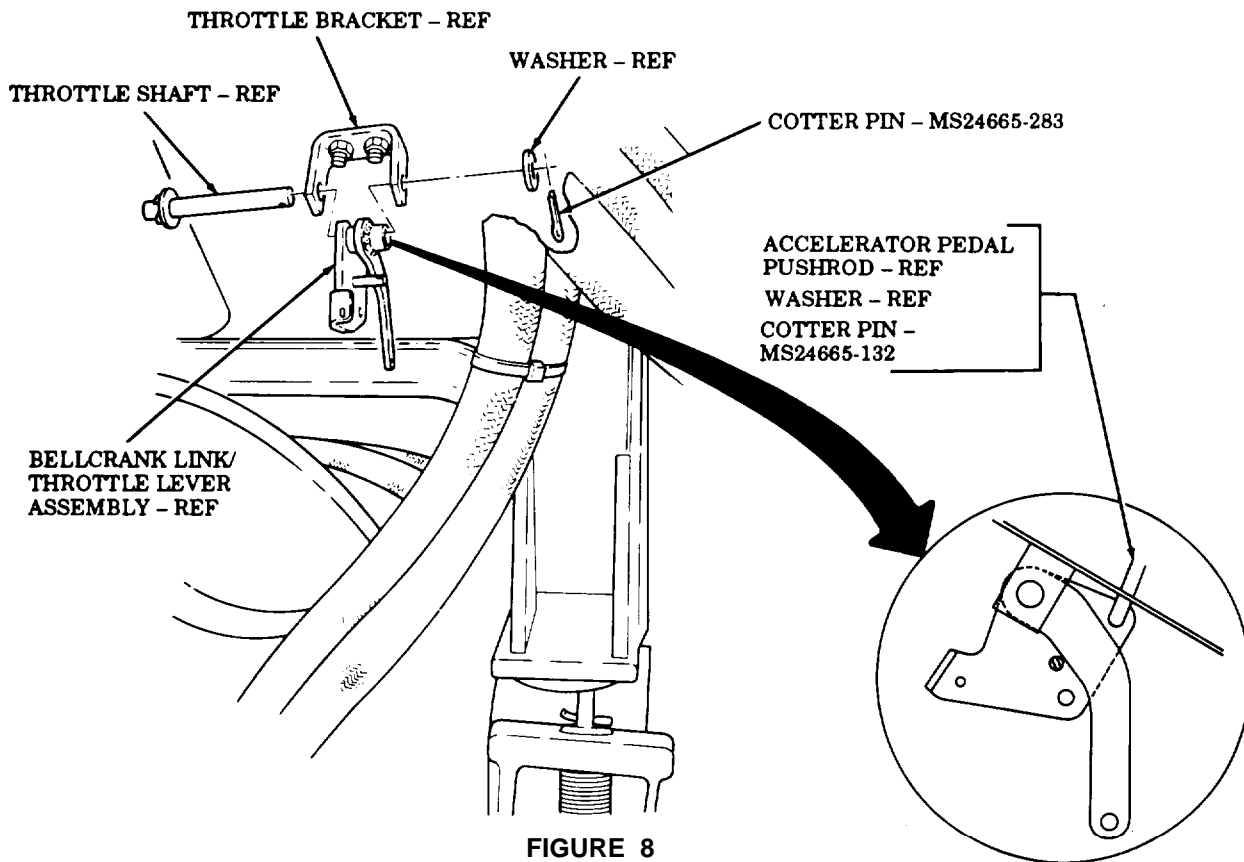
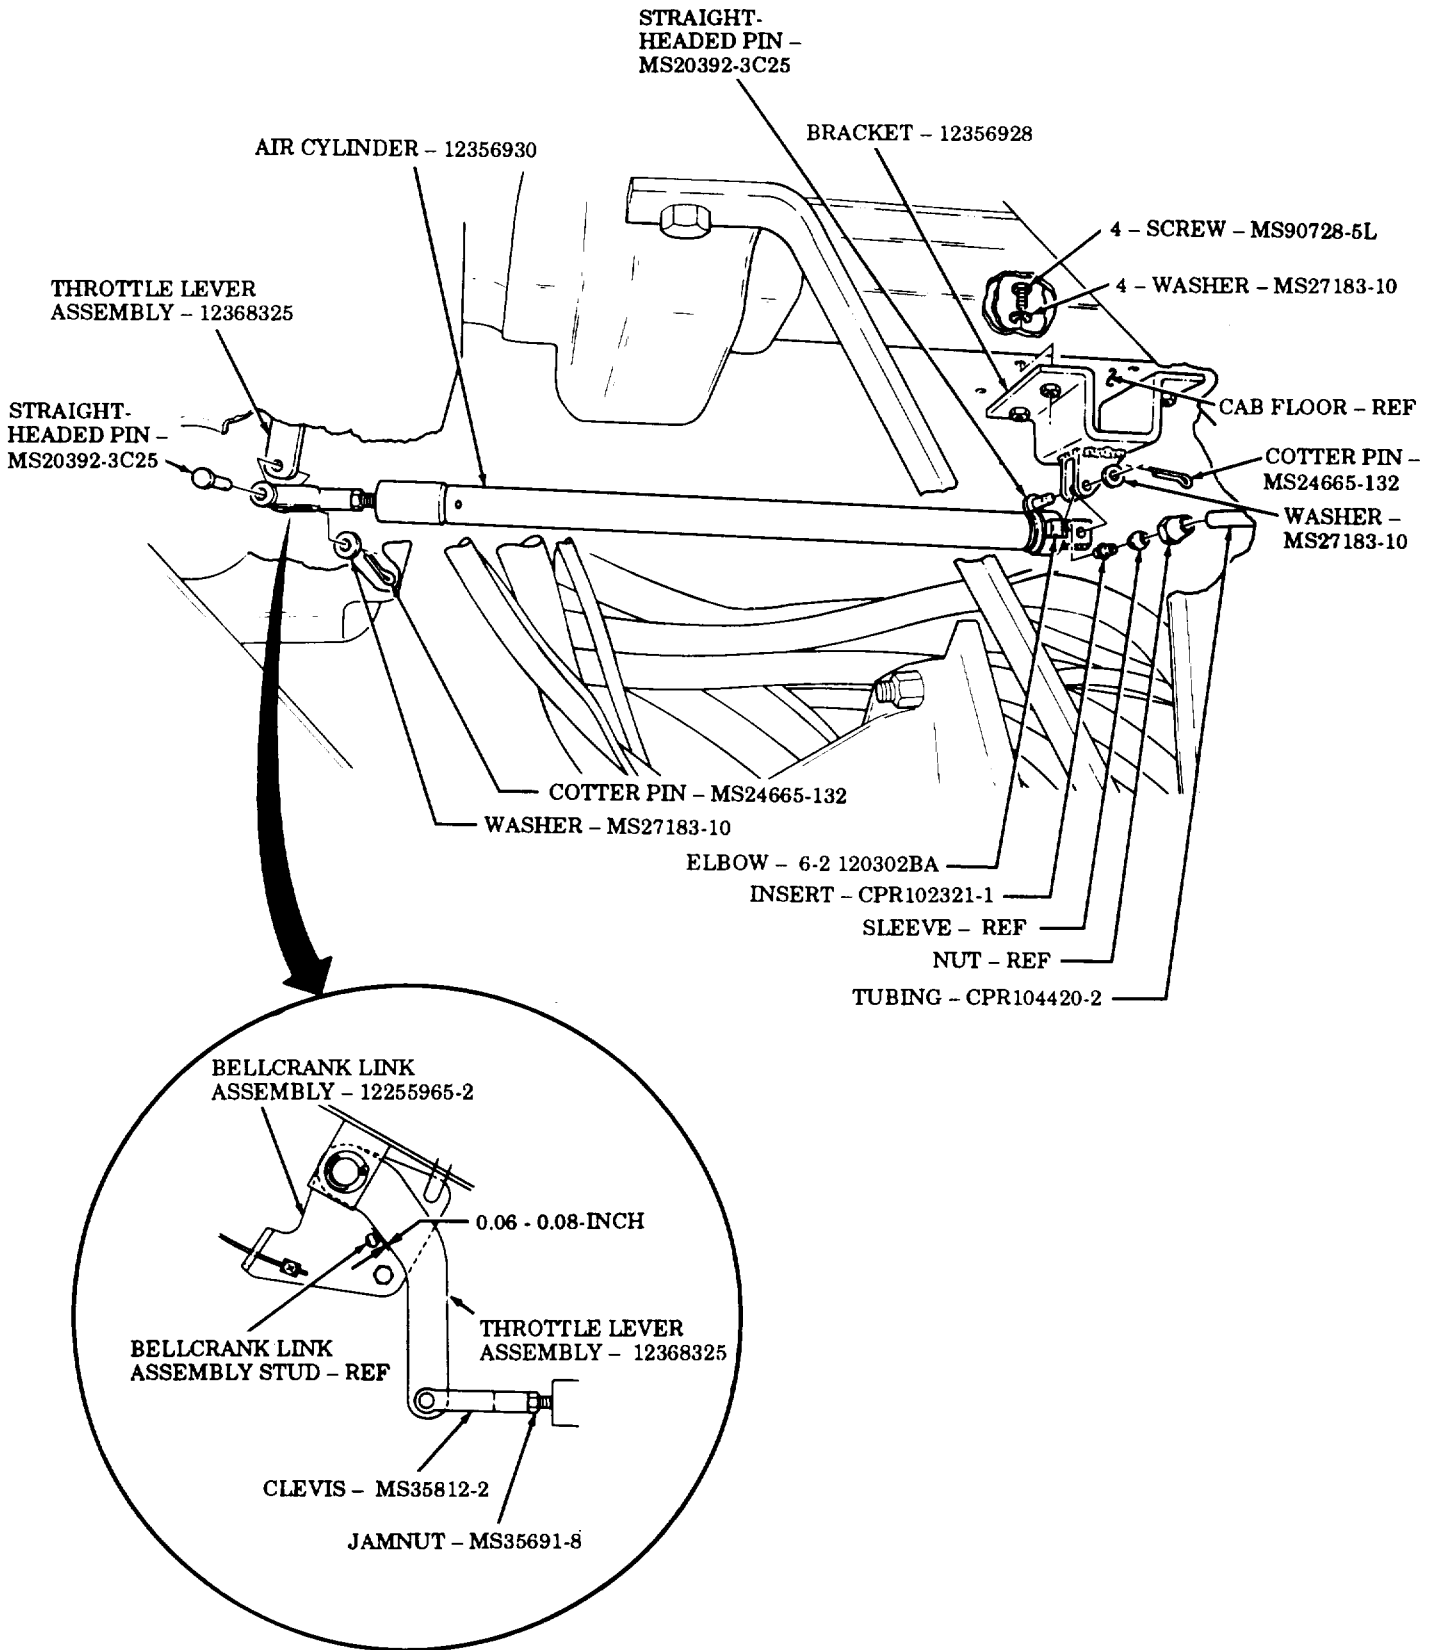

FIGURE 8
FIGURE 9
- (1) Position accelerator pedal pushrod on bellcrank link/throttle lever assembly and install bellcrank link/throttle lever assembly on throttle bracket with throttle shaft, washer, and MS24665-283 cotter pin as shown in figure 8.
- (2) Install accelerator pedal pushrod on bellcrank link/throttle lever assembly with washer and MS24665-132 cotter pin as shown in figure 8.
- (3) Install ball joint, return spring, and throttle cable on bellcrank link assembly (12255965-2) (TM 9-2320-272-20).
- (4) Install 12356928 bracket on cab floor with four MS27183-10 washers and MS90728-5L screws as shown in figure 9.
- (5) Install air cylinder (12356930) on bracket (12356928) with MS20392-3C25 straight-headed pin, MS27183-10 washer, and MS24665-132 cotter pin as shown in figure 9.
- (6) Install clevis (MS35812-2) on throttle lever assembly (12368325) with MS20392-3C25 straight-headed pin, MS27183-10 washer, and MS24665-132 cotter pin as shown in figure 9.
- (7) Measure clearance between stud of bellcrank link assembly (12255965-2) and throttle lever assembly (12368325). Clearance should be 0.06-0.08-inch as shown in figure 9.
- (8) Remove cotter pin (MS24665-132), washer (MS27183-10), straight-headed pin (MS20392-3C25), and clevis (MS35812-2) from throttle lever assembly (12368325) as shown in figure 9.
- (9) Loosen jamnut (MS35691-6) and turn clevis (MS35812-2) to obtain proper clearance as shown in figure 9.
- (10) Install clevis (MS35812-2) on throttle lever assembly (12368325) with straight-headed pin (MS20392-3C25), washer (MS27183-10), and cotter pin (MS24665-132). Check clearance as shown in figure 9.
- (11) Repeat steps 8 through 10 until proper clearance is obtained.
- (12) Install CPR102321-1 insert, sleeve, and CPR104420-2 tubing on elbow (6-2 120302BA) on air cylinder (12356930) with nut as shown in figure 9.
a. When installed correctly, the Automatic Throttle Kit will appear as shown in figure 9.